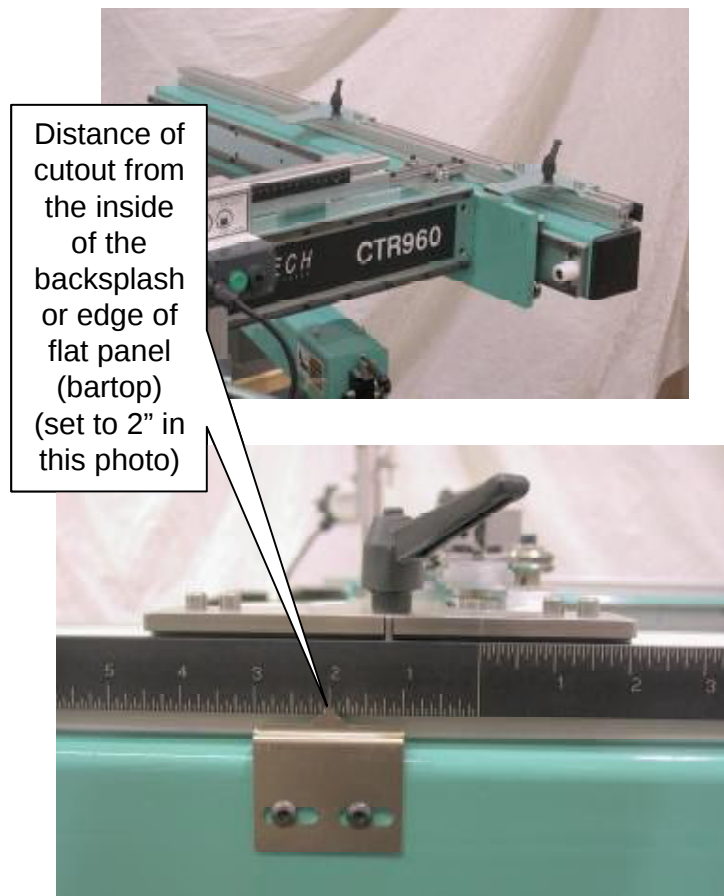

Figure 10
2. Using the scale on the side of the machine, position the front template/stops for the distance of the cutout from the inside of the backsplash or edge of flat panel (bartop) by aligning the desired dimension with the pointer (see Figure 10).